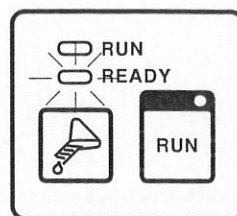

fig.6
- ② Make sure that the **READY** lamp is on. (fig.6)